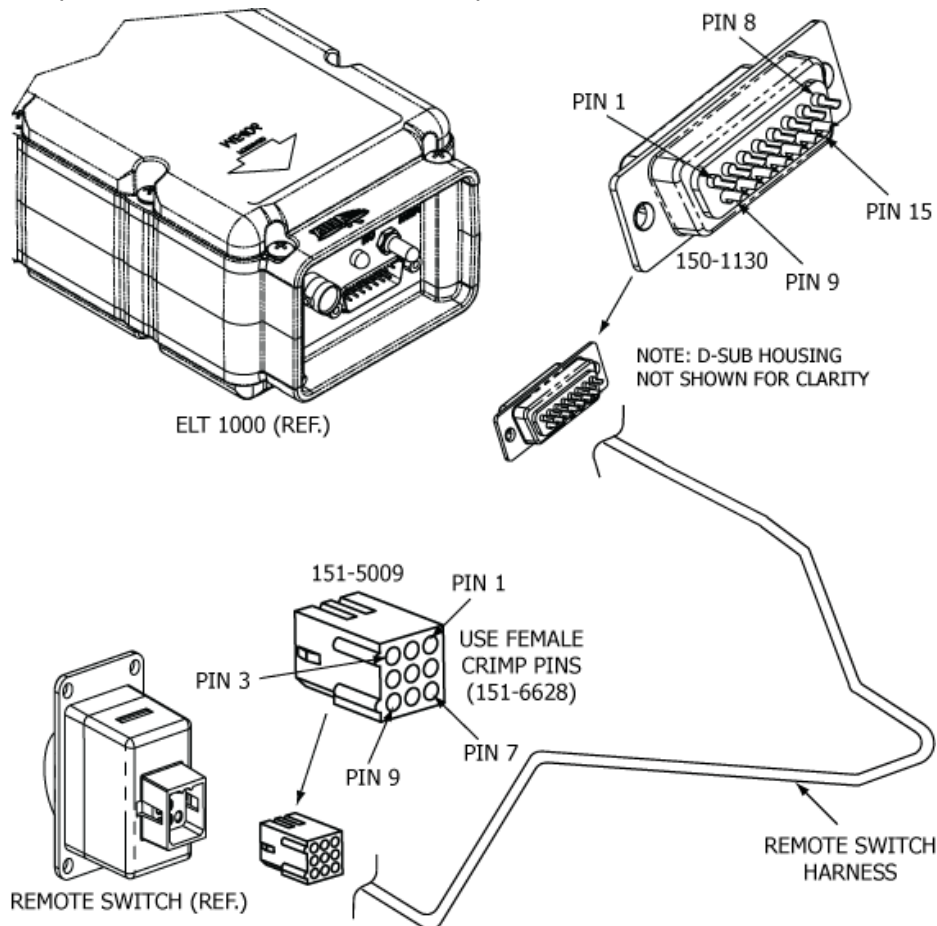

Figure 24 Remote Switch Harness Arrangement
- 1) See Figure 24 Remote Switch Harness Arrangement.